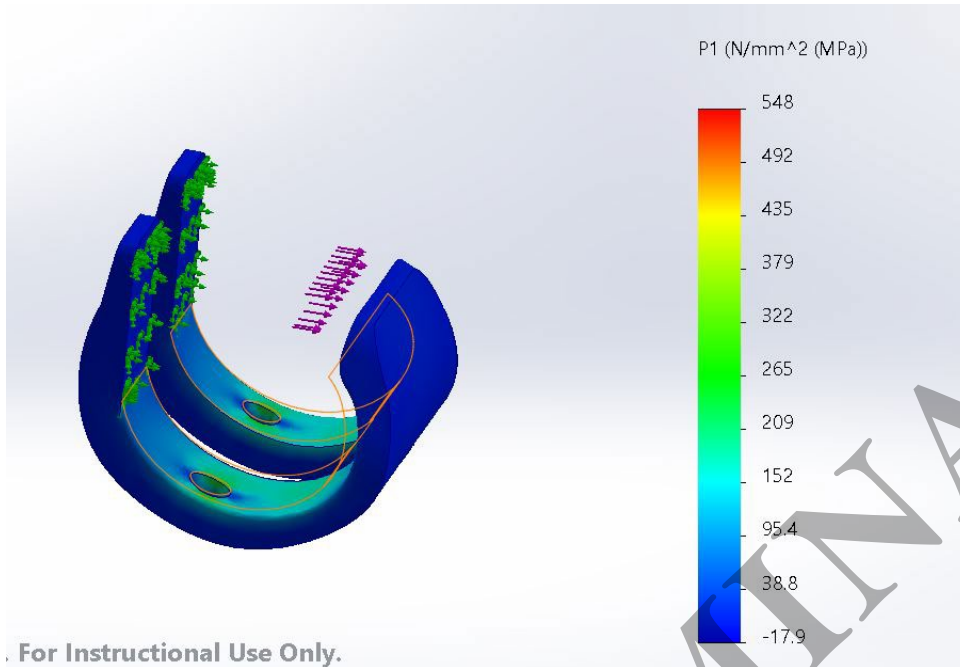

Fig Q5b FEA plot of the Principal stress under an inplane moment of 60Nm
It is also expected that the component under its normal usage would be under repeated cyclic loading with a maximum bending moment of 60Nm shared equally at the position of the two holes. Assuming at the position of largest stress the 2nd moment of area is 290 mm⁴ and maximum depth is 6 mm, hence, estimate the maximum stress and predict the life of the component under this condition. You can also assume for this geometry, $K_t = 3.4$ based on photoelastic test data and the notch sensitivity factor $q = 0.8$. A finite element analysis plot is given in Fig Q5b (on the following page) for reference.
b) In order to verify the behaviour both finite element analysis and strain gauge techniques were used to evaluate the design. The output from the finite element model is shown in figure Q5b indicating the principal stress values at the position of interest.